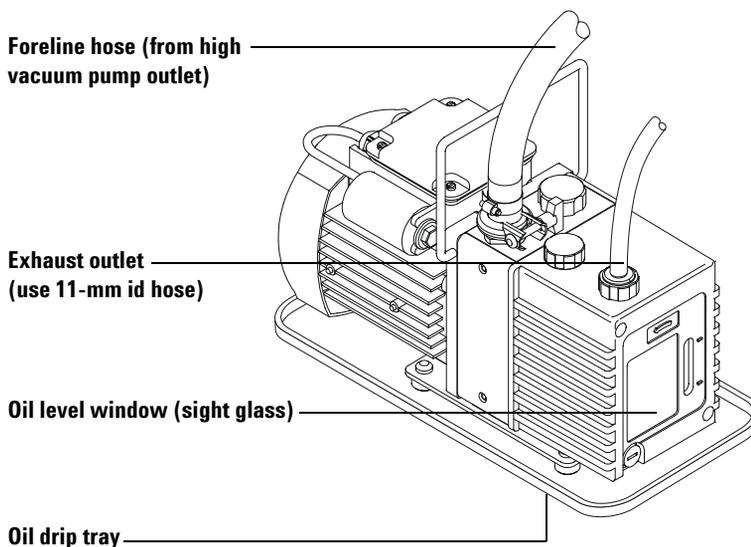

Figure 5 Preparing the vacuum system
- 4 Place the oil drip pan under the foreline pump as shown Figure 5 on page 33.